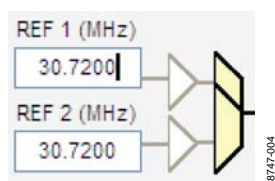
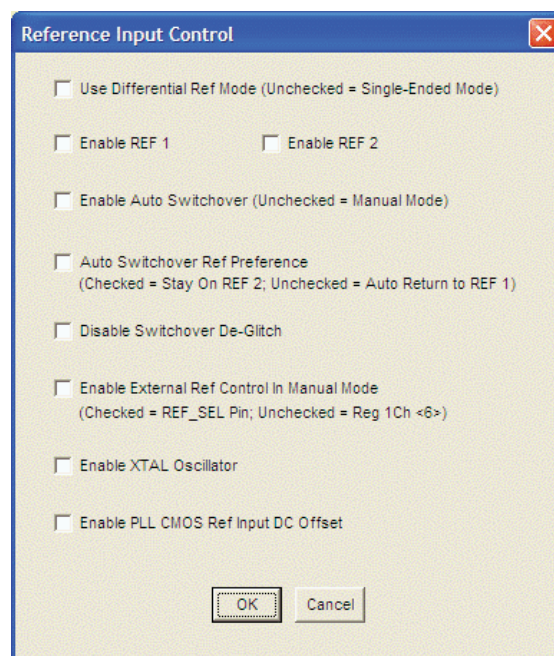

Figure 4. Buffer Symbol
Figure 5. AD9522 Reference Input Control Window
3. Click the triangular buffer symbol immediately to the right of the input reference frequency (see Figure 4) to load the **Reference Input Control** window shown in Figure 5. Turn the REF1 reference input buffer on by selecting the **Enable REF 1** check box, and then clicking **OK**.